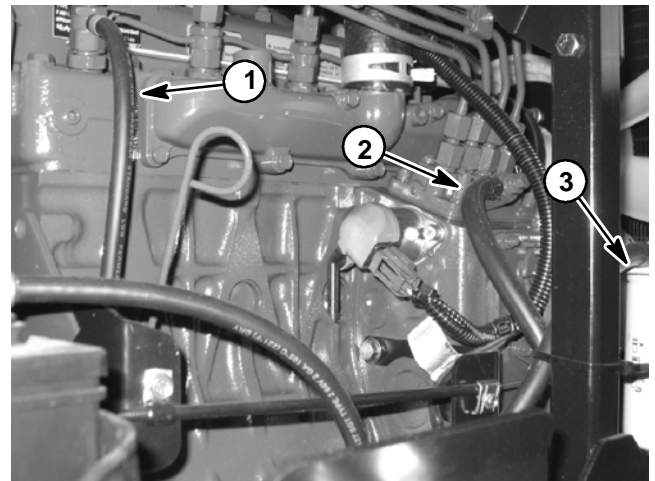

Figure 11
- B. At injector pump, loosen hose clamp and disconnect supply fuel hose from the injector pump fitting (Fig. 11).
- C. Loosen hose clamp and disconnect fuel return hose from front injector body (Fig. 11).
D. Insert cap screw down through each engine bracket and mount. Place spacer, snubbing washer and then flange nut on four (4) cap screws. Tighten fasteners to secure engine to engine mounts.
A. Connect fuel supply and fuel return hoses to engine fittings (Fig. 11). Secure with hose clamps.